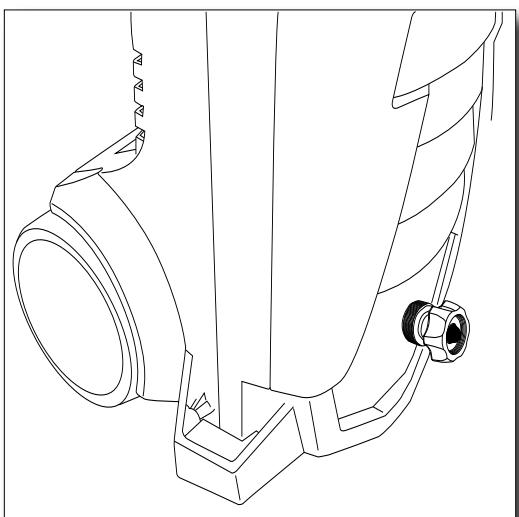

Fig. 17
- Replace the washer filter and attach garden hose to the blue collar. (**Fig. 17 & 18**)